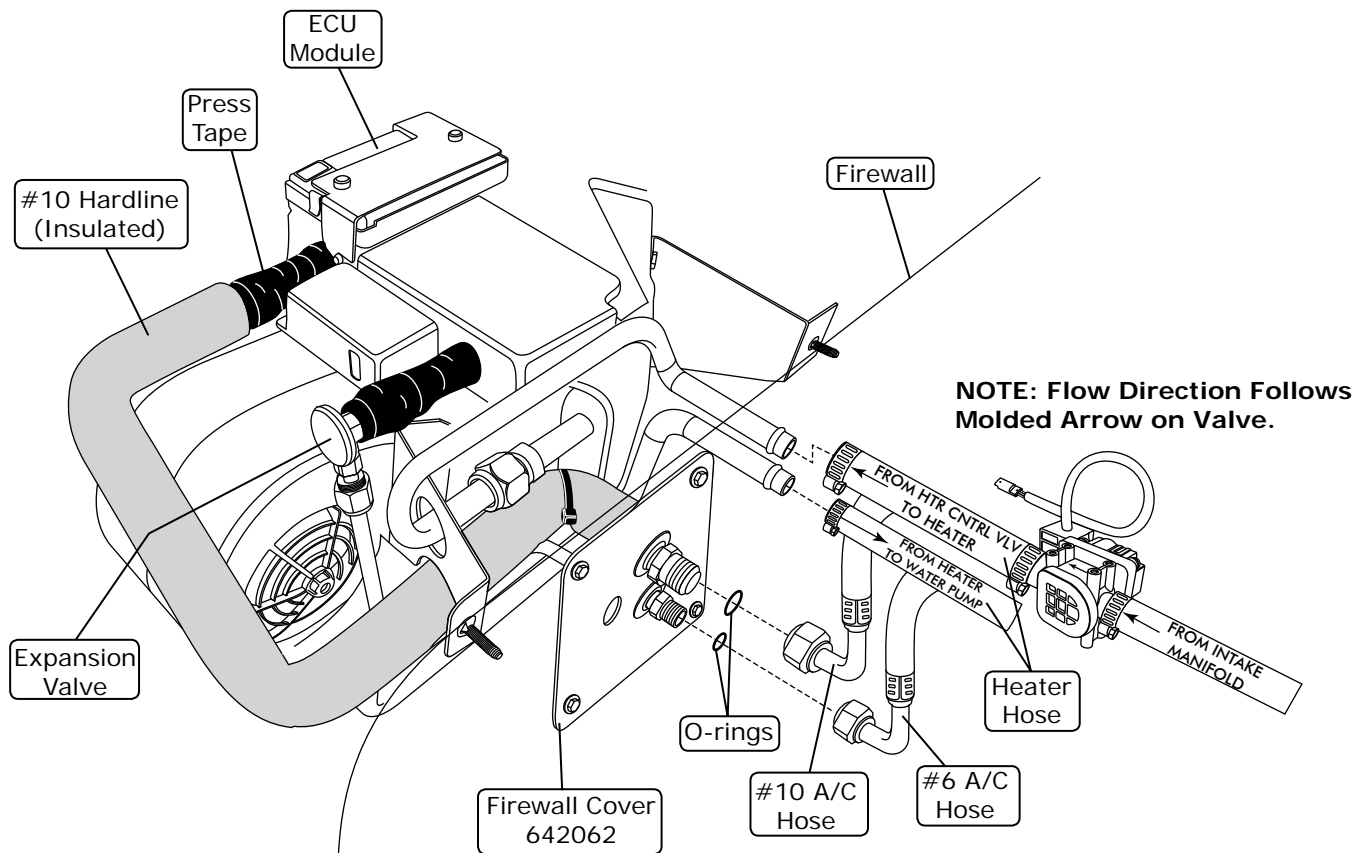
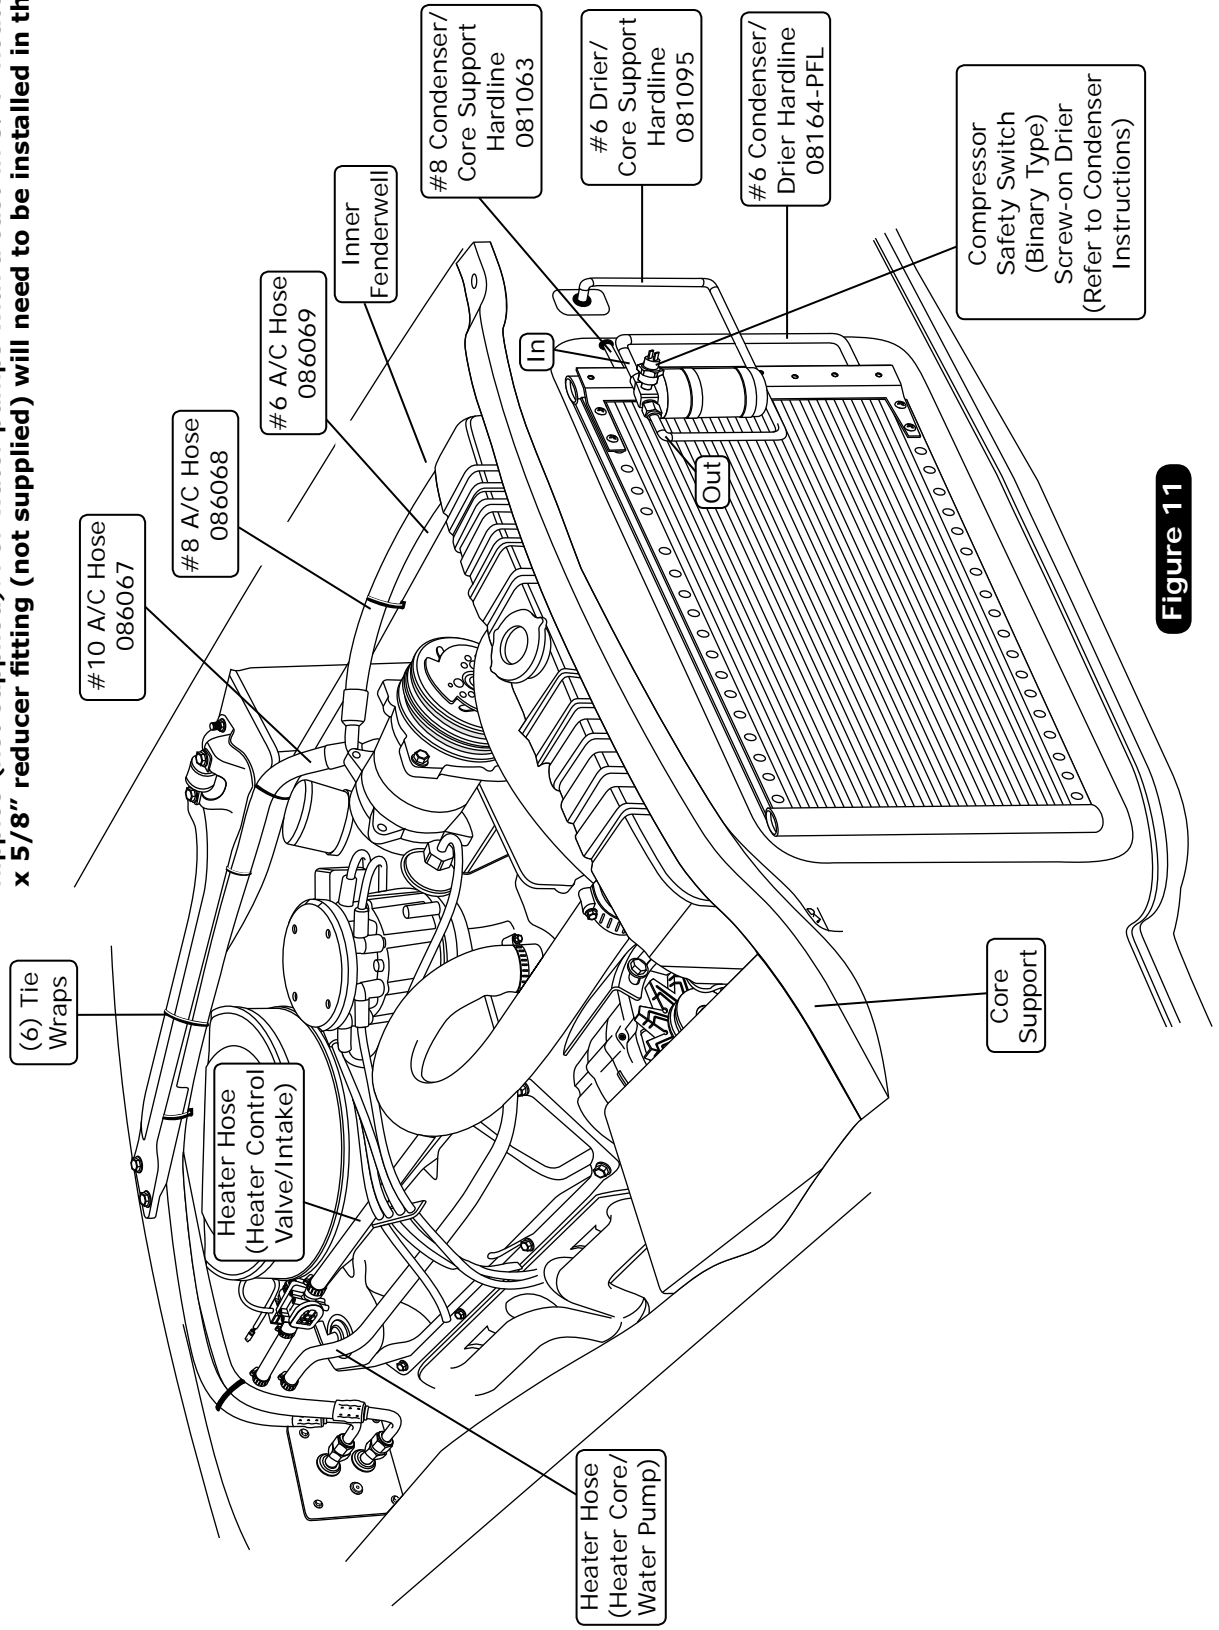

Figure 10
Figure 11
1. Locate the #8 compressor A/C hose. Lubricate (2) #8 O-rings (See Figure 9, above) and connect the 45° fitting to the #8 discharge port on the compressor. Then route the straight female fitting with service port to the #8 condenser hardline coming through the radiator core support (See Figure 11, Page 14). Tighten each fitting connection as shown in Figure 9, above.
2. Locate the #10 compressor A/C hose. Lubricate (2) #10 O-rings (See Figure 9, above) and connect the 90° female fitting with service port to the #10 suction port on the compressor. Then route the 90° female fitting to the #10 evaporator hardline coming through the firewall (See Figure 10, Page 13, & Figure 11, Page 14). Tighten each fitting connection as shown in Figure 9, above. Wrap the #10 fitting connections with press tape (See Figure 10, Page 13).
3. Locate the #6 evaporator/drier hose. Lubricate (2) #6 O-rings (See Figure 9, above) and connect the straight female fitting to the #6 drier hardline coming through the radiator core support. Then route the 90° female fitting to the #6 evaporator hardline coming through the firewall (See Figure 10, Page 13). Tighten each fitting connection as shown in Figure 9, above.
4. Use (6) tie wraps to secure the #6 A/C hose to the brace as shown in Figure 11, Page 14.
1. Route a piece of heater hose from the water pump to the lower heater line coming through the firewall as shown in Figure 10, below. Secure using hose clamps.
2. Route a piece of heater hose from the intake to the upper heater line coming through the firewall as shown in Figure 10, below. **NOTE: Install the heater control valve in line with the intake manifold (pressure side) heater hose, and secure using hose clamps. Also note proper flow direction.**